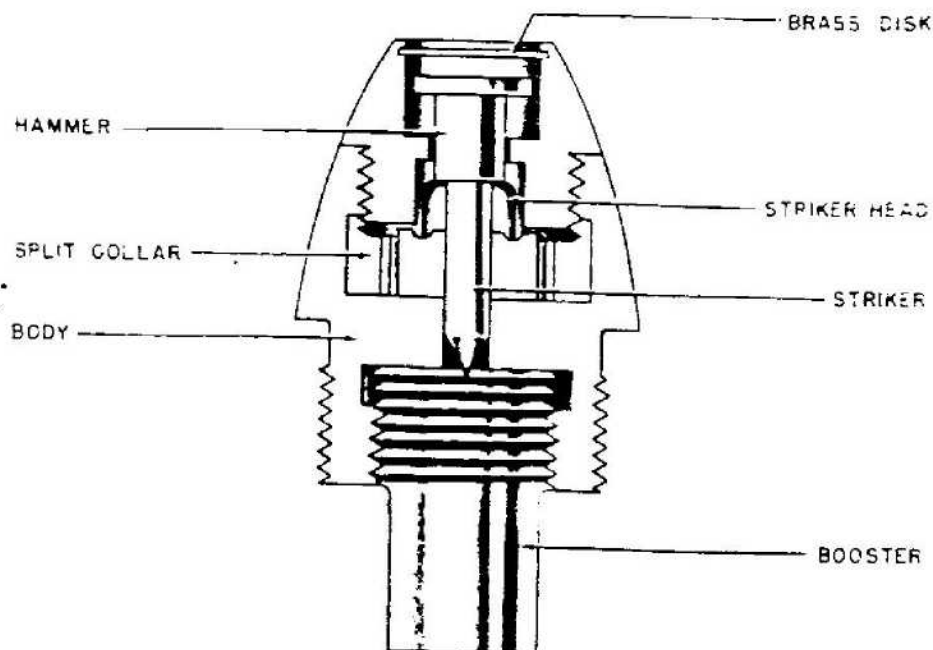

Figure 559—A. Z. 5045
**DESCRIPTION:** This fuze is of the detonating type with a direct action of the floating striker type. The fuze is used in the 2-cm shell. (See fig. 559.)